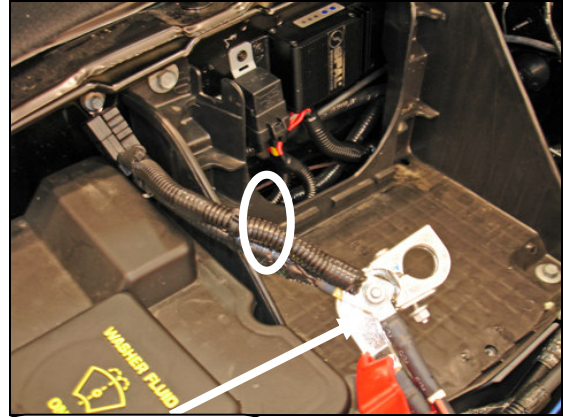

Figure 1
4. Disconnect the ring terminal for the fans harness power wire and the fan relay harness power wire from the positive battery terminal, then cut off the zip tie securing the fan harness and fans harness relay wires to the stock Ford harness. (Figure 1)